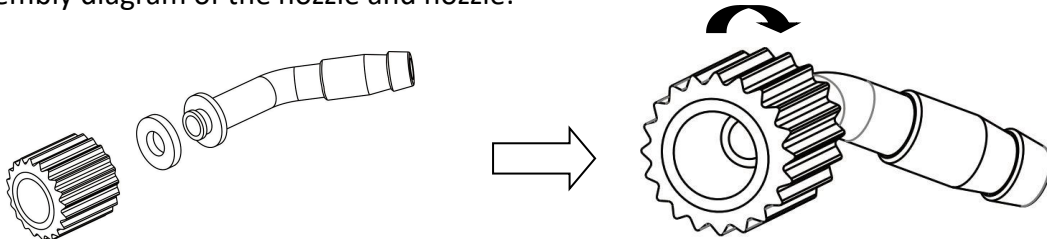

Figure 14
(6) Install two cooling nozzles and one vacuum nozzle on the screw port of the condenser (see Figure 3) (the nozzle assembly is shown in Figure 14) (just tighten the nut to tighten), before installation. Check if the gasket is fitted into the groove.